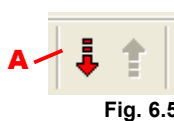
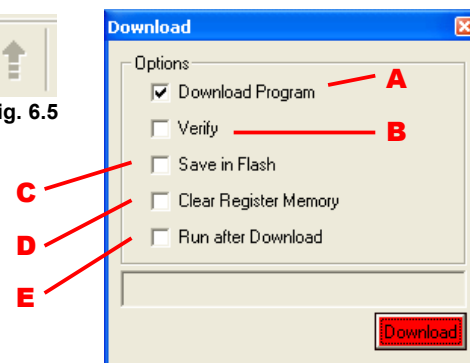

Fig. 6.5
Fig. 6.6
When the Program is complete and if the compiling ends correctly it is possible to download it in the RAM memory of Controller. To do it, open the “Download” window (Fig.6.6) clicking on the “Download” button (Fig.6.5-A).
- “Download Program” (Fig.6.6-A) – Starts to download the Program in the RAM memory of Controller.
- “Verify” (Fig.6.6-B) – Compares the Program contained in the RAM memory with the compiled Program.
- “Save in Flash” (Fig.6.6-C) – Transfers the Program loaded in the RAM memory to the Internal Flash Memory of the Controller.
- “Clear Register Memory” (Fig.6.6-D) – Resets the value of the Controller's General Purpose Internal Registers .
- “Run After Download” (Fig.6.6-E) – At the end of the download, sets the Controller in “Run” modality (execution of the Program).